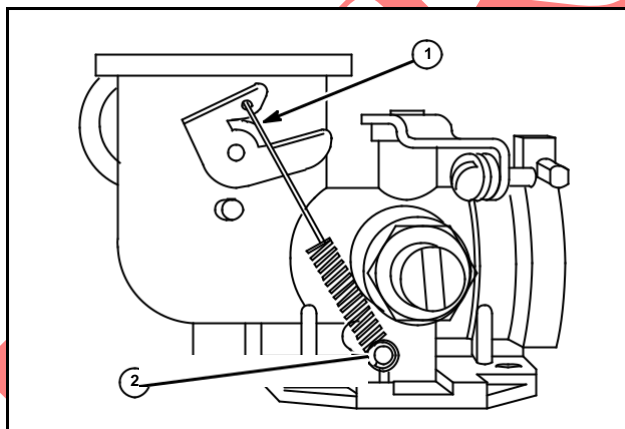

Fig. 162
NOTE: On vertical crankshaft Model Series 92500 (Type Number 0600 and under) hook small loop on post on carburetor body (2) and long hook on choke shaft lever (1), Fig. 162.